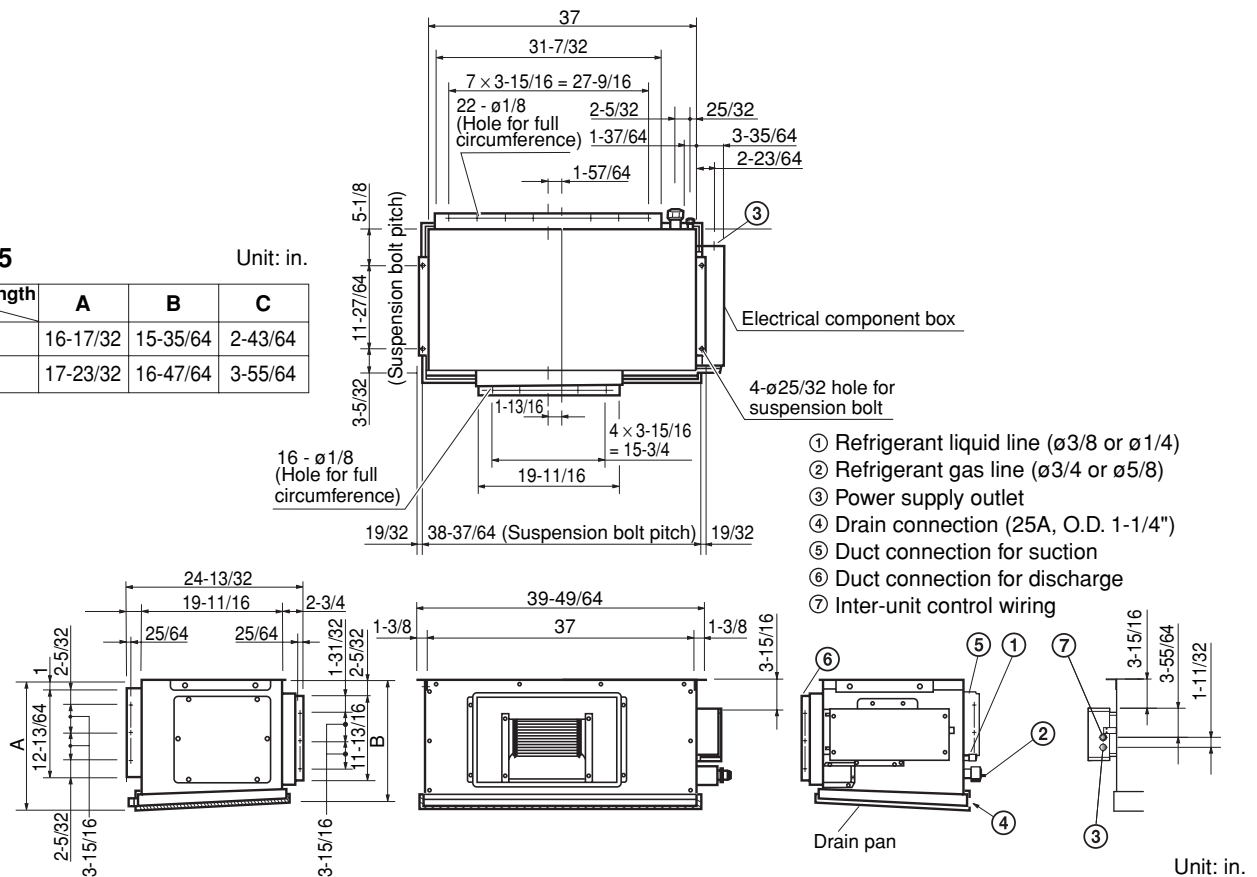

Fig. 3-78
- Fig. 3-78 and Table 3-5 show the detailed dimensions of the indoor unit.